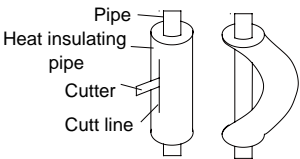

Fig.11
(4). When bending the pipe, do not bend it as is. The pipe will be collapsed. In this case, cut the heat insulating pipe with a sharp cutter as shown in Fig.11, and bend it after exposing the pipe. After bending the pipe as you want, be sure to put the heat insulating pipe back on the pipe, and secure it with tape.